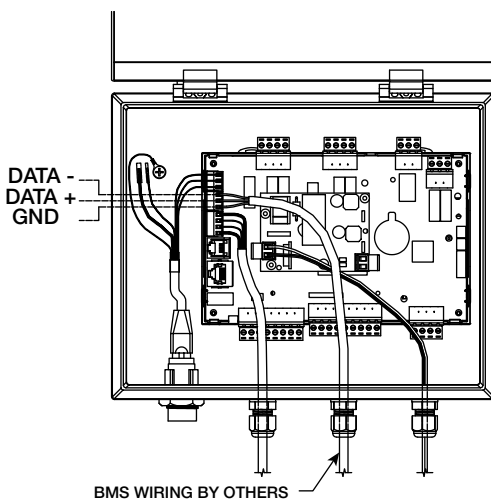

Figure 1
6. If control panel was provided with optional BACnet® MSTP communication for building management system (BMS) integration, route an RS-485 communication cable (provided by others) from the BMS to the control panel through the unused cable gland on the exterior of the control panel enclosure. Connect the RS-485 communication cable to the BACnet terminal block on the control panel circuit board, as shown in Figure 1.